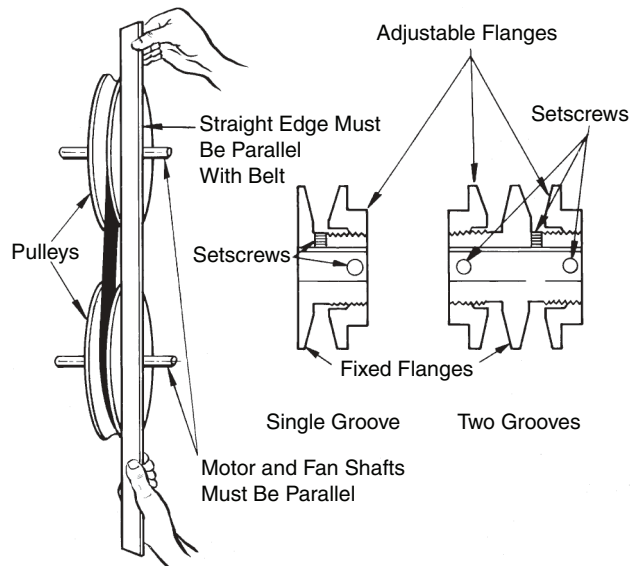

Fig. 30 — Fan Pulley Adjustments
3. Use the methods shown in Fig. 30 to check proper pulley alignment.
2. Loosen setscrew in movable flange of pulley. Screw movable flange toward fixed flange to increase the fan speed and away from fixed flange to reduce speed. Before tightening set-screw, make certain that setscrew is over nearest flat surface of pulley hub. (See Fig. 30.)